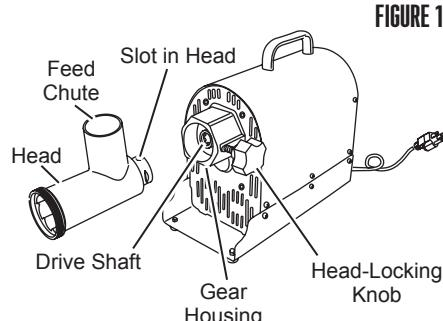

FIGURE 1
1. Make sure Meat Grinder is unplugged. Insert the Head into the Gear Housing with the Feed Chute facing straight up. You will need to line up the slot in the Head with the Key inside the Gear Housing. Be sure the Head is seated fully into the Gear Housing (**FIGURE 1**).